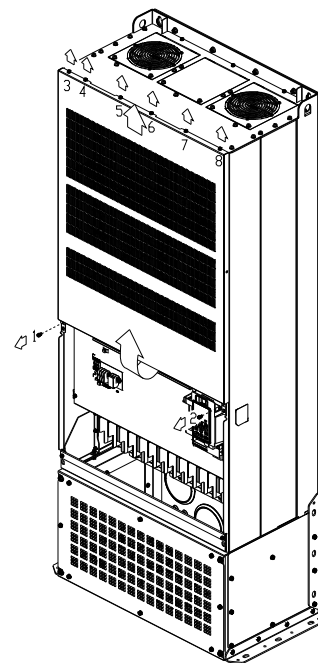

Figure 2
2. Loosen the screw 1–8 and remove the top cover (figure 2).